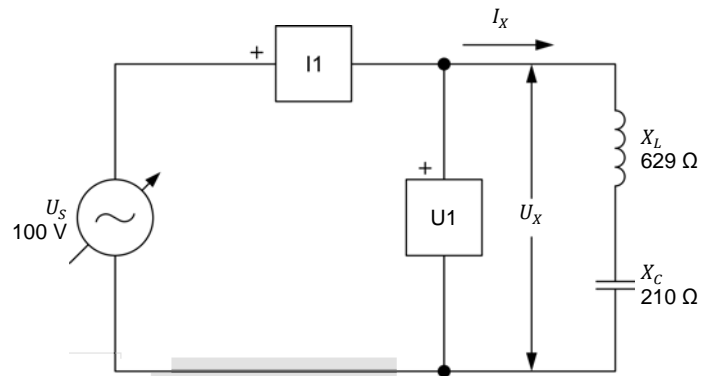

Figure 2-16. Series ac circuit containing an inductor and a capacitor.
4. Set up the circuit shown in Figure 2-16.
In this section, you will calculate the equivalent reactance X_{Uq} of the reactive components in the circuit of Figure 2-16. You will measure the voltage U_x and current I_x and calculate the equivalent reactance X_{Uq} from these values. You will determine the phase relationship between the voltage U_x and current I_x , and whether the equivalent reactance is inductive or capacitive. You will then interchange the inductive and capacitive reactance values in the circuit and repeat the previous manipulations. You will determine the relationship between the polarity of the equivalent reactance X_{Uq} of the reactive components and the nature of the equivalent reactance (inductive or capacitive).